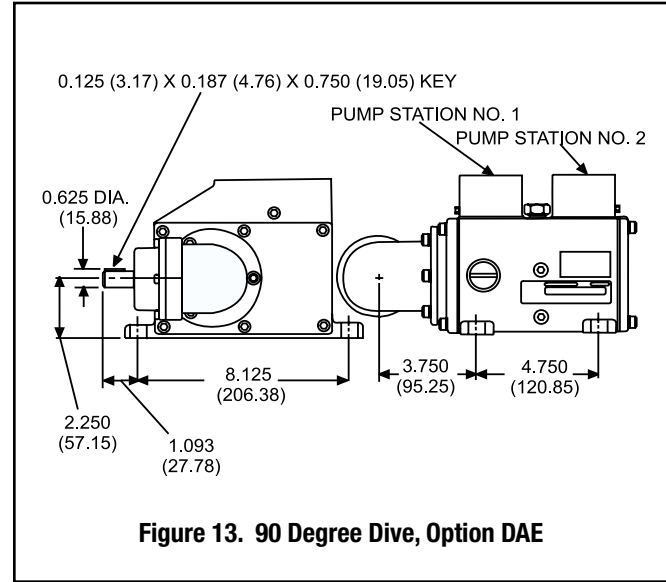

Figure 13. 90 Degree Drive, Option DAE
**90 Degree Drive.** A bevel gear arrangement allows the drive-shaft to extend from the rear of this unit. Figure 13 illustrates the 90 degree drive, option DAE.